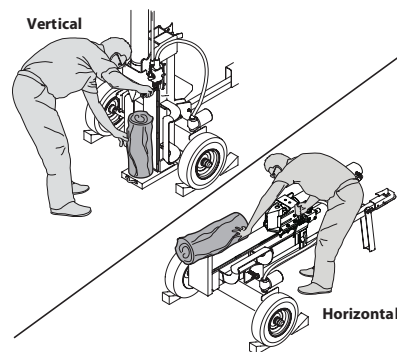

Figure 1
6. Always operate this machine from the operator zone(s) specified in the manual. See Figure 1.
- a. Horizontal Operating Position: Stand on the control lever side of the log splitter and stabilize log as shown, if needed. See Figure 1.
- b. Vertical Operating Position: Stand in front of the log splitter and stabilize log as shown, if needed. See Figure 1.